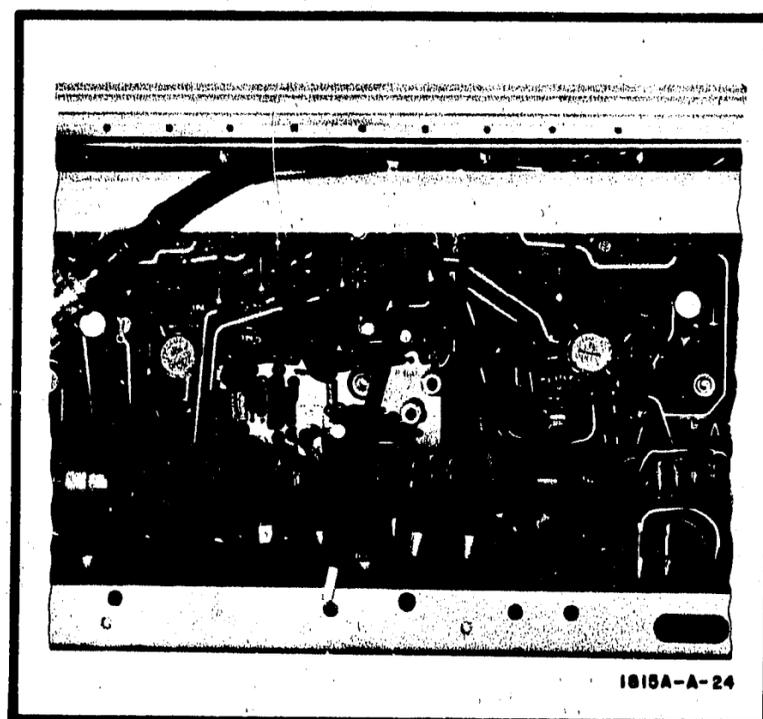

Figure 5-8. Stretcher Gate Triggering
e. Connect the monitor oscilloscope to A3TP2 in the remote sampler. Trigger the monitor oscilloscope from the stretcher gate signal at A1TP5 in the Model 1815A as shown in Figure 5-8.